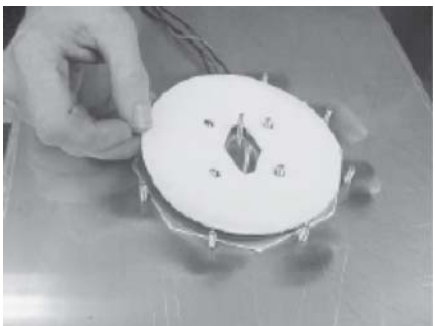

Figure 3-52
10. Install the new insulation from the kit, over the water pan heater. Figure 3-52.